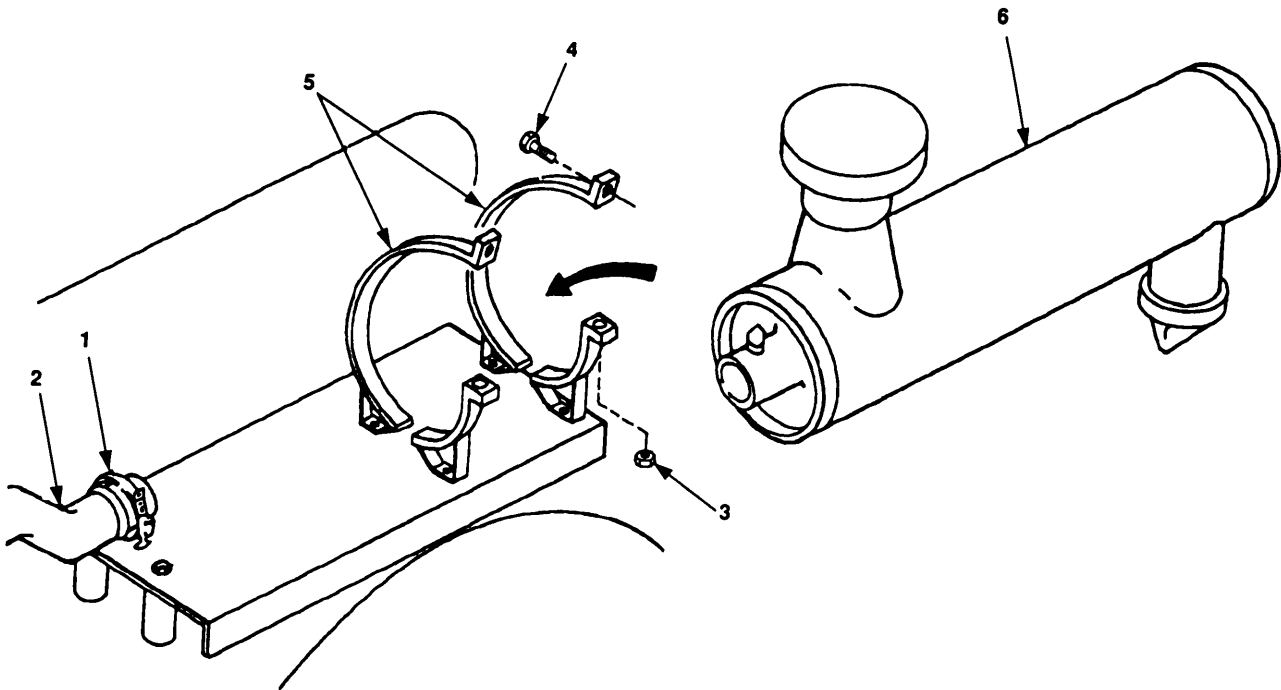

Figure 4-8. Air Cleaner Removal and Installation.
- a. Loosen clamp (figure 4-8, 1) from manifold and remove hose (2).
- b. Remove nuts (3) and screws (4) securing the clamps (5).
- c. Open the clamps (5) and remove air cleaner assembly (6).
- a. Open clamps (figure 4-8, 5) and position air cleaner assembly (6).
- b. Position clamps (5) around air cleaner assembly (6) and install screws (4) and nuts (3).
- c. Position hose (2) and clamp (1) on air cleaner assembly (6).
- d. Tighten clamp (1) to secure hose (2) to manifold.
- e. Tighten nuts (3) to secure air cleaner assembly (6).